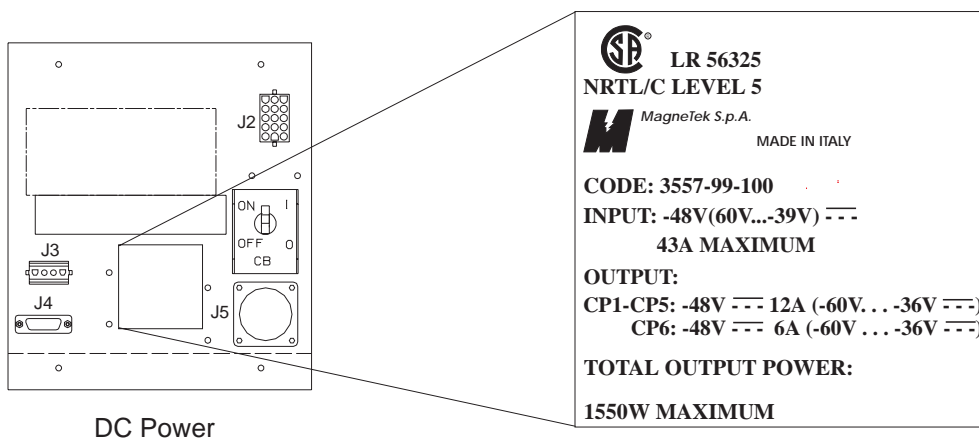

Figure 11-17. dc Power Rating Plate
2. Check that the power rating plate data (see Figure 11-17) are consistent with the customer's available DC voltage.